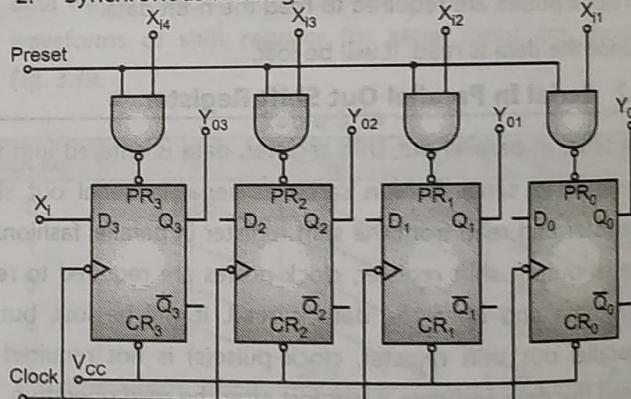
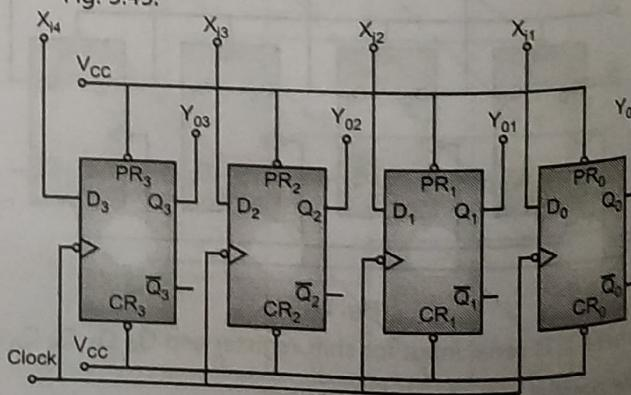

Fig. 3.44
Fig. 3.45
- The logic diagram of four-bit asynchronous loading parallel in and parallel out is shown in Fig. 3.44 and synchronous loading parallel in parallel out is shown in Fig. 3.45.